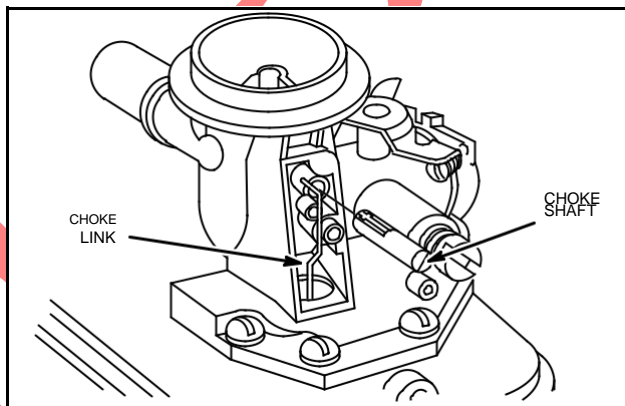

Fig. 144 - REMOVING AUTOMATIC CHOKE, TYPICAL
2. Then slide choke link out choke shaft lever. Pull shaft out of valve, Fig. 144.